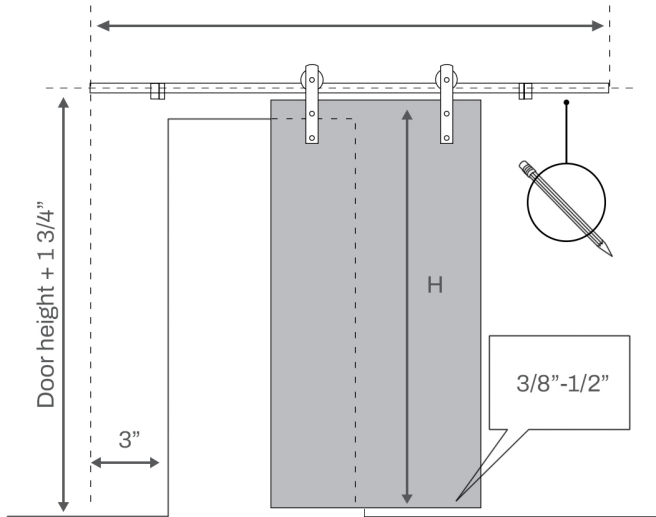

FIGURE 8
- Measure 3" (76mm) over from the edge of the opening. Mark this position with a pencil (see FIGURE 8).